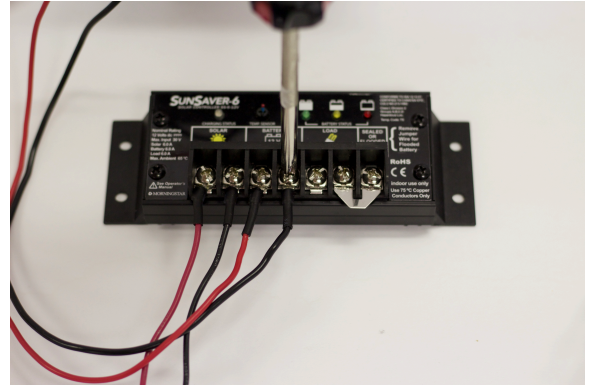

Figure 5
6) Locate the battery. Again, ensure that the switch is in the **OFF** position and the ends of the wire are covered with sleeves. Remove the sleeve for the **RED** wire. Using a screwdriver, connect the **RED** wire from the battery to the **POSITIVE** terminal on the Charge Controller designated for the battery. Again, do this in the same manner as you did for the PV panel. Then remove the sleeve for the **BLACK** wire and connect the **BLACK** wire from the battery to the **NEGATIVE** terminal on the Charge Controller designated for the battery (Figure 5).